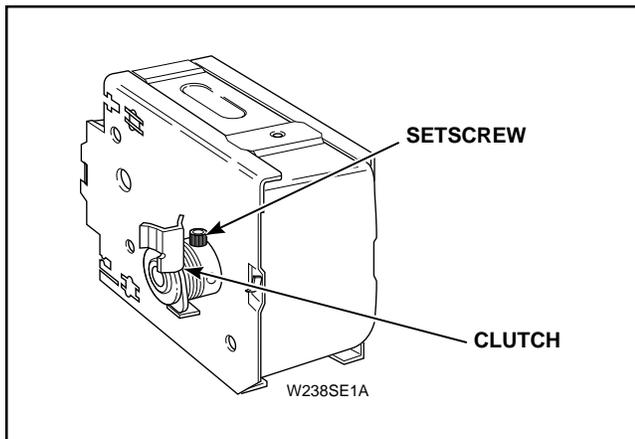

Figure 10
7. Loosen setscrew holding clutch to timer shaft, *Figure 10*.
1. Place clutch on timer shaft and tighten setscrew, *Figure 10*.